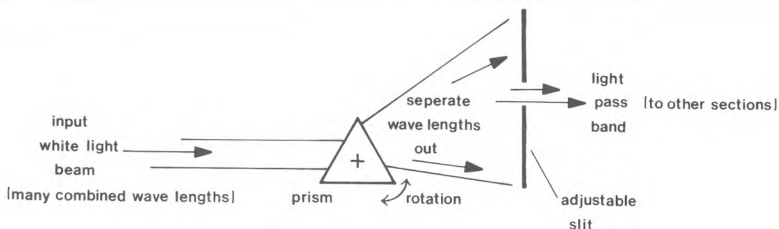

Fig. 2
**An optical bandpass filter.** Ordinary colored optical filters can be used in the same manner as fixed electronic filters (high/low cut or bandpass filtering). The components shown in figure 2 might be found in a photospectrometer. In this example, a beam of white light (many different wavelengths) is refracted (spread into its component wavelengths) by a rotatable prism. The refracted rays pass through a narrow slit in an otherwise opaque material, which allows you to choose various frequency ranges at the output end. Known as a monochromator, this is an adjustable optical bandpass filter. Like the electronic audio bandpass filter, this one can be swept, held fixed, or have its pass bandwidth changed since you can pick and choose which frequencies to transmit by rotating the prism. These signals could be simple audio encoded frequencies, or they might be entire channels of information (several audio or control signals modulating a "carrier" frequency). This gives you the equivalent of a channel selector/mixer in one device. Several could be cascaded for more complex filtering or routing. Now, start adding lenses, mirrors, modulators, inverters, amplifiers, splitters, multiplexers, delay lines, mixers, and you get an idea of how similar optical synthesis processing is to conventional electronic synthesis processing. Remember too that these are mostly analog methods - you can have digital optical control/processing as well. The world is wide, and not all electronic...so see the light!